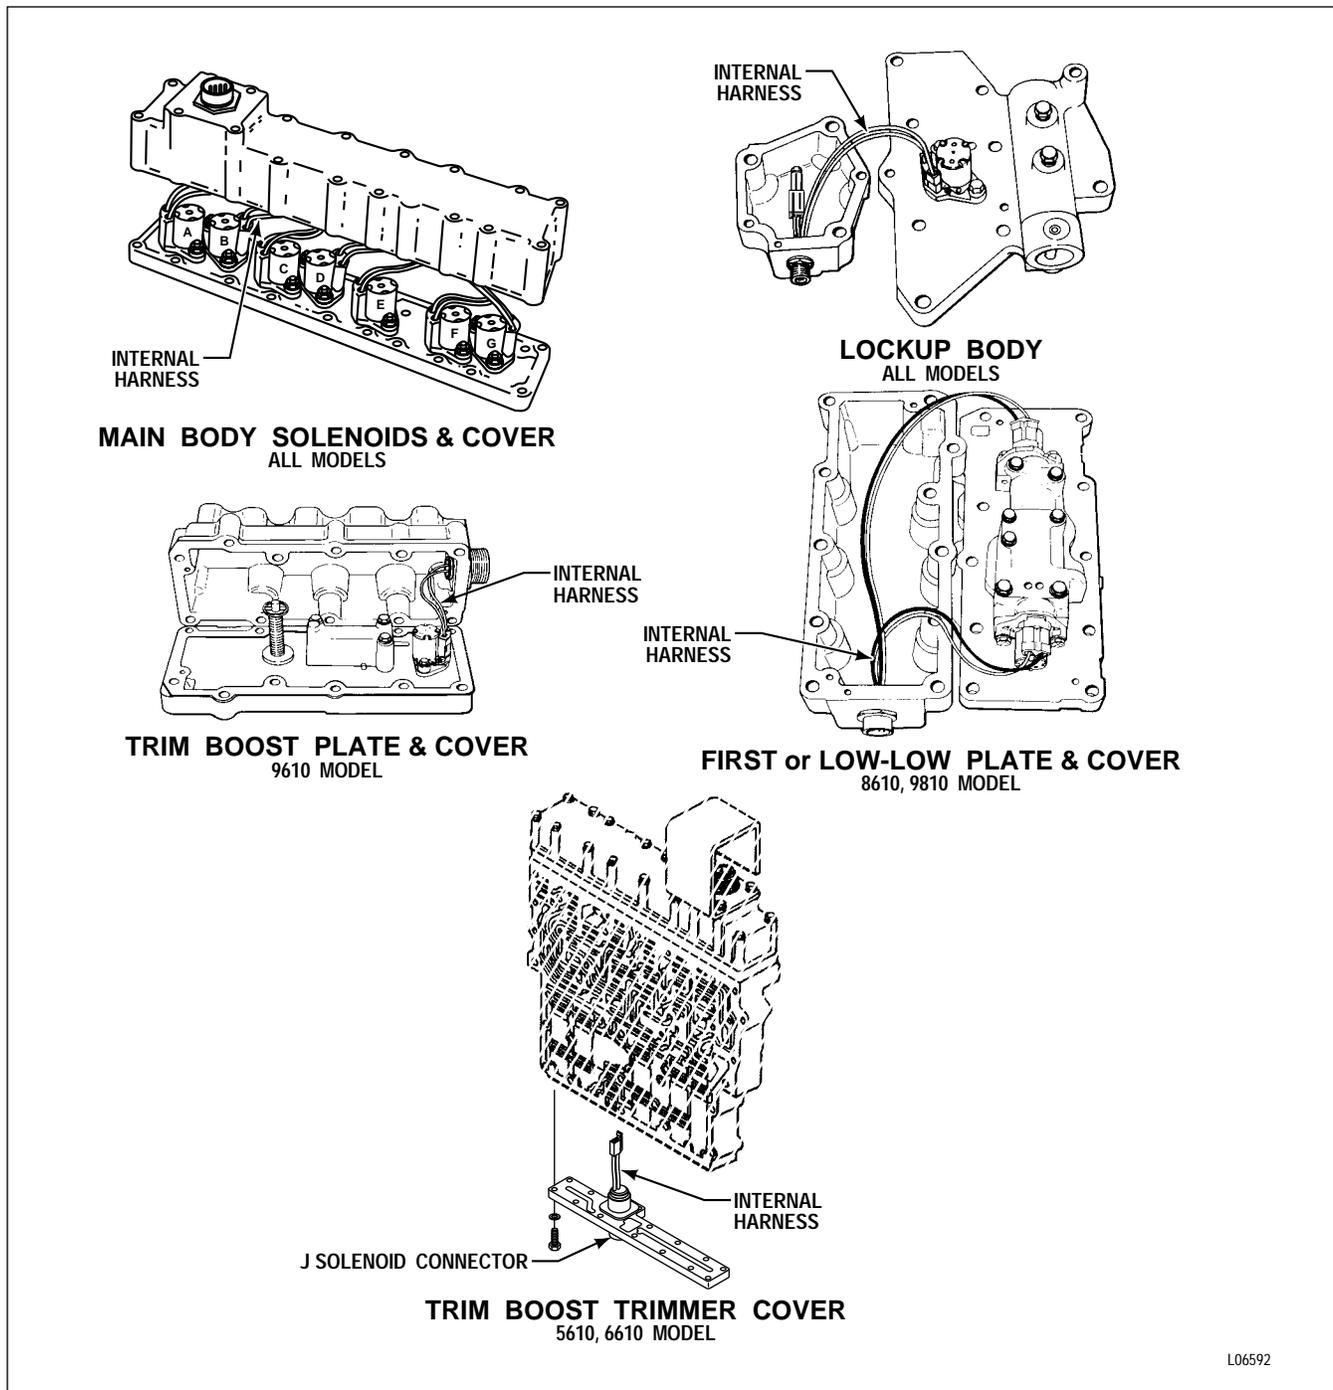

Figure 1-10. CEC 2 Internal Wiring Harnesses
B. Internal Wiring Harnesses (Figure 1-10)